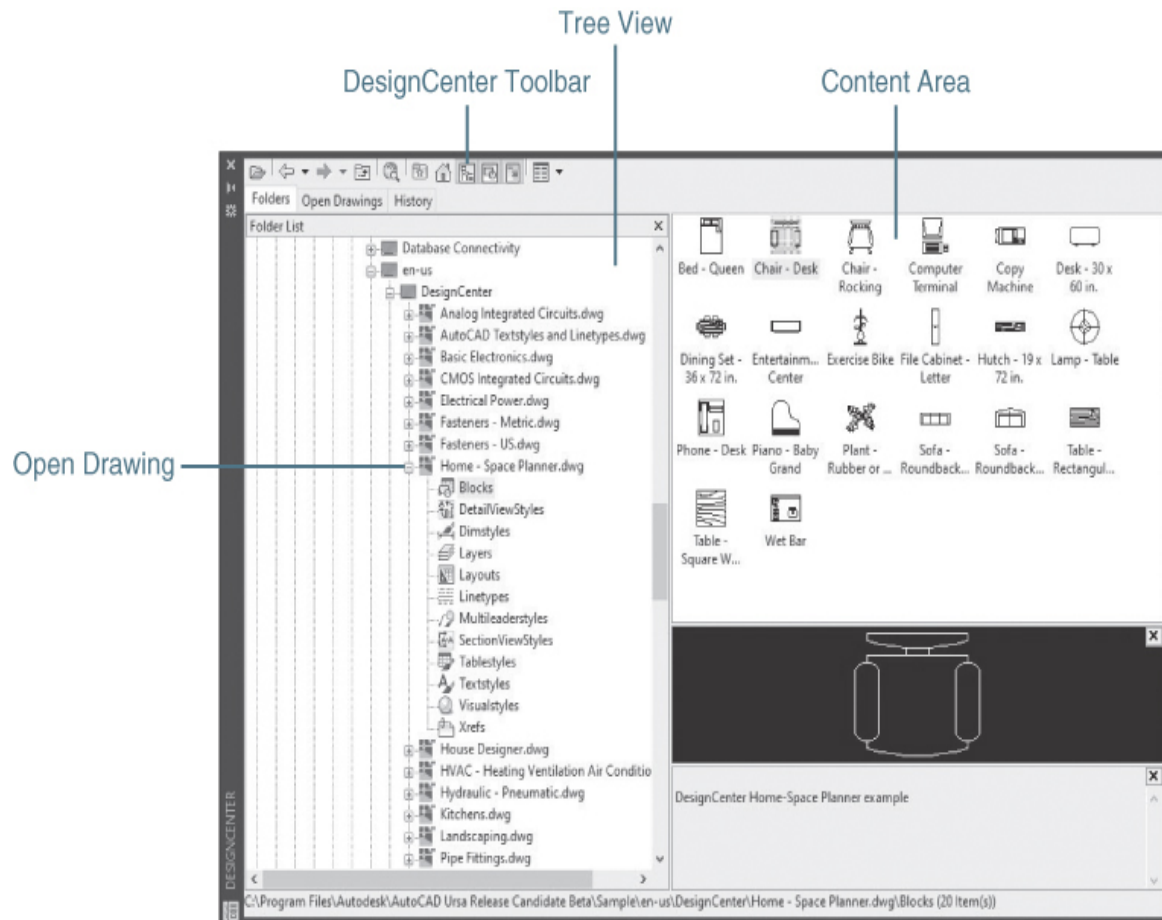

Figure 16-56
Starting the **ADCENTER** command displays the **DesignCenter** window shown in Figure 16-56.
If the tree view is not displayed, select the **Tree View** toggle button on the **DesignCenter** toolbar at the top of the **DesignCenter** window shown in Figure 16-56.
- **Folders tab** Explorer-like interface that allows you to navigate the hierarchy of files and folders on your computer or attached network drives (see Figure 16-56)
- 3 Start **DesignCenter** and navigate to the **Home-Space Planner.dwg** file located in the **DesignCenter** folder as shown in Figure 16-56.